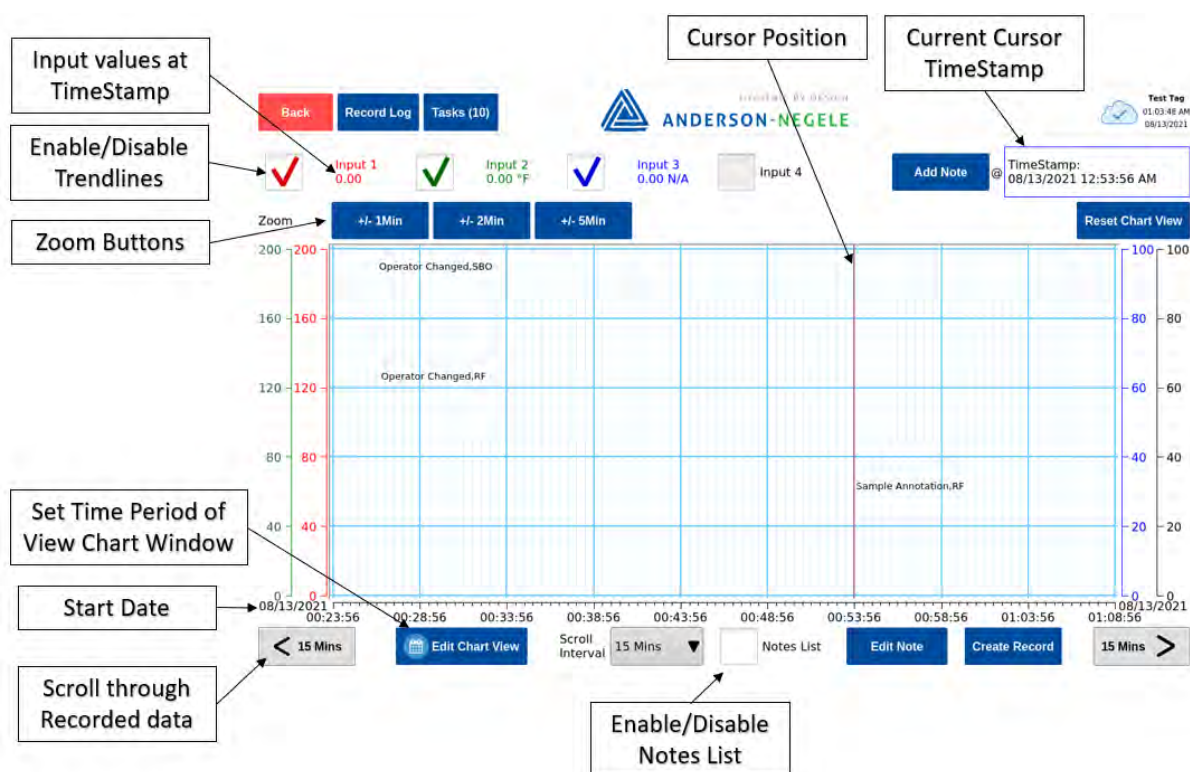

Figure 47: View Chart Screen
- **Enable / Disable Trendlines** – Shown as the configured input names in Figure 47, selecting this check box will enable (show) the trendline and deselecting will disable (hide) the trendline in the View chart screen.
- **Start and End Date** – Start Date of chart period is Shown in Figure 47, end date is located in the bottom right of the view chart screen.
- **Time Scroll Button** – Shown in Figure 47 as “Scroll through Recorded Data”, these buttons increment the chart when pressed by the Scroll Interval that is displayed on the face of the button.
- **Notes List** – Selecting this check box will enable (show) the Annotation List as seen in Figure 47 and deselecting will disable (hide) the Annotation List in the View chart screen allowing for the Chart to display on a larger portion of the HMI.